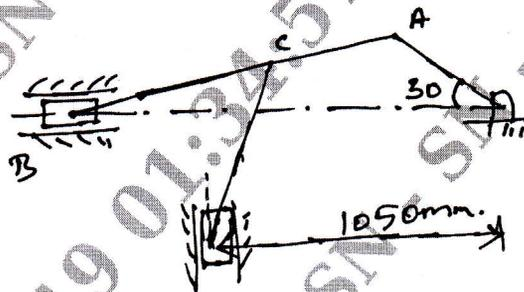

Fig. Q3
- 3 For the mechanism shown in Fig. Q3 crank OA rotates at 20 rpm C.C.W, gives motion to sliding blocks B and D. OA = 300 mm, AB = 1200 mm, BC = 450 mm, CD = 450 mm. Determine (i) Velocity of B and D (ii) Angular velocity of CD (iii) Linear acceleration of D.